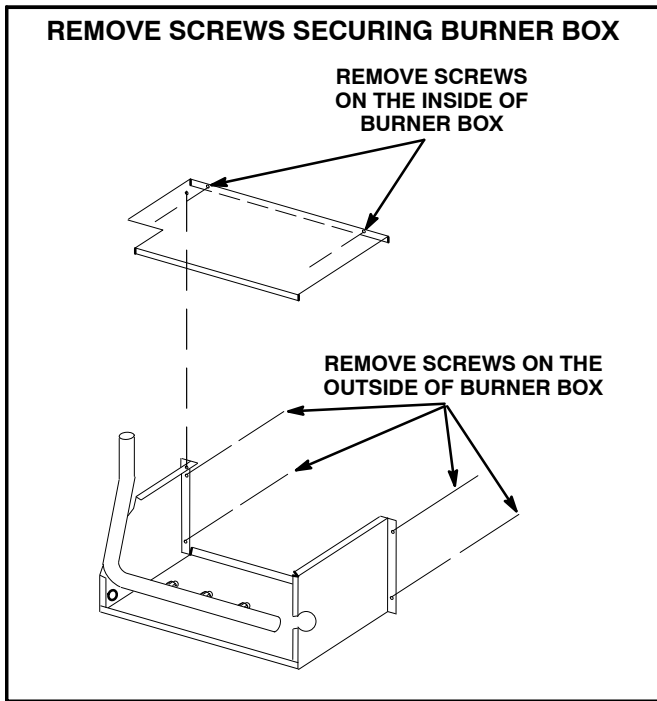

FIGURE 1
- 5- Remove four screws on the outside of the burner box and two screws on the inside of the burner box which hold the burner box to the vest panel. See figure 1.